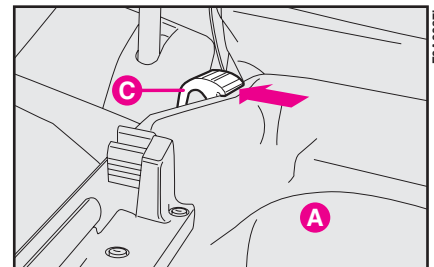

fig. 125
- 3) Fasten the two parts by means of rubber fasteners **C-fig. 125**.